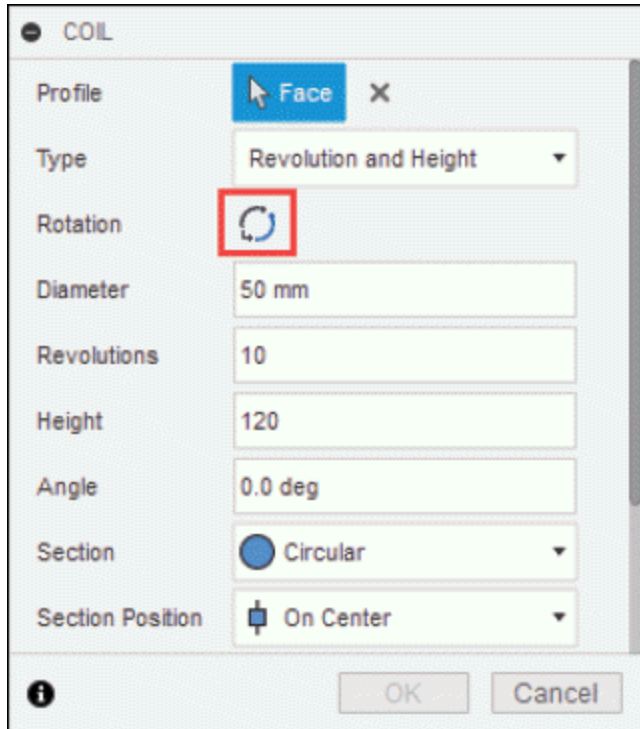

Figure-78. Rotation button
- Click on the **Rotation** button to flip the rotation side of coil to clockwise or counterclockwise direction; refer to Figure-78.